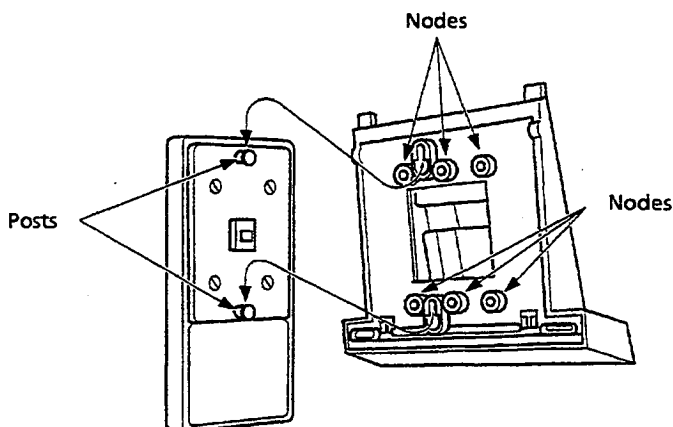

Figure 1-62 Attach Base Unit to the Wall
4. Attach the base unit to the posts on the locally provided wall plate. Using locally provided screws, secure the base unit to the wall. Place the screws in the nodes provided on the base unit. (Place the wider end of the base unit down.) Attach the base unit to the wall plate as shown in Figure 1-62 Attach Base Unit to the Wall.